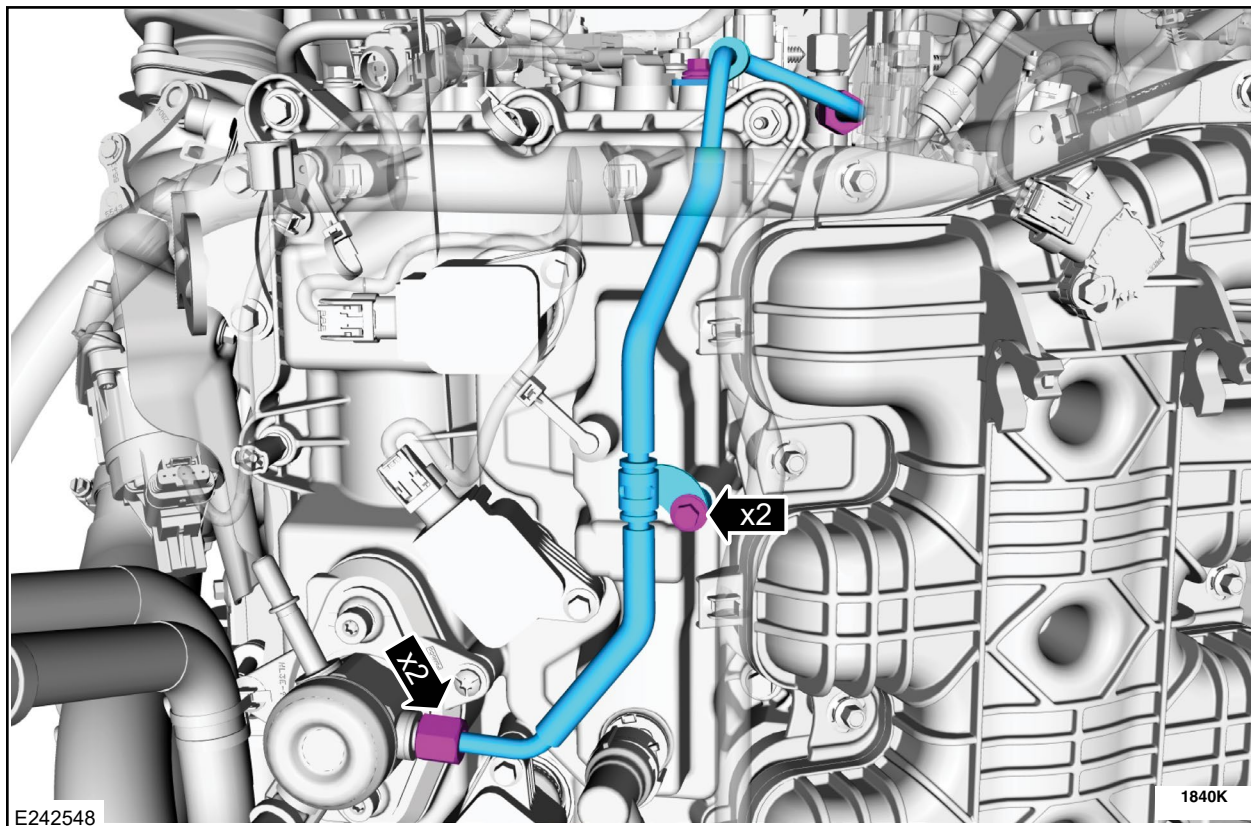

FIGURE 10
See Figure 10.
15. Install the new high-pressure fuel tube retaining bolts. See Figure 10.